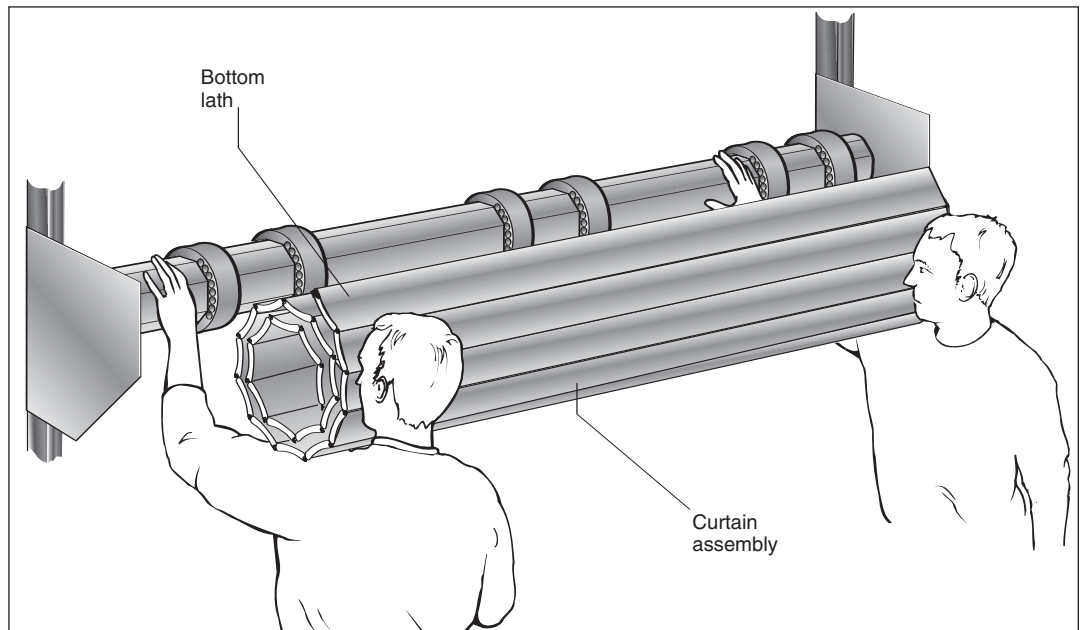

Fig 16
**6.3.2** Using 2 people carefully lift the curtain assembly up level with the axle. Practice has shown that it is best to place one hand on the axle, keeping that arm straight, and support the curtain roll on that shoulder (see Fig 16).